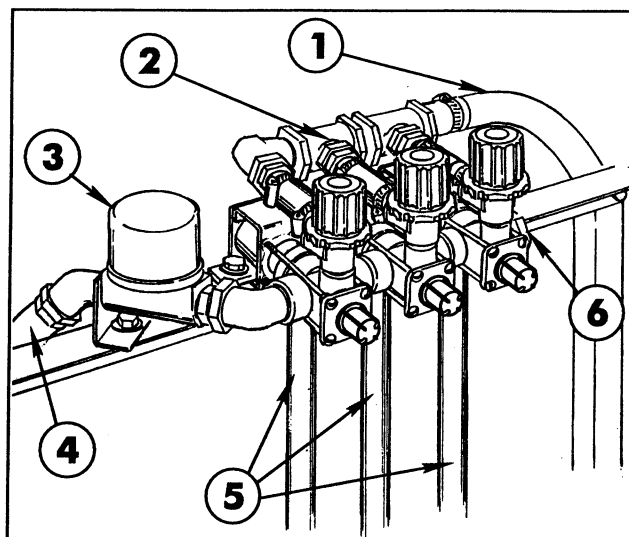

FIG. 13
3. Slide the Solenoid Mounting Strap into position and mount the complete Control Valve and Solenoid Assembly to the Cross Support as shown in FIG 13. Use four (4) 5/16" x 1" hex hd cap screws with washers below the screw head, the Strap and the Cross Support.